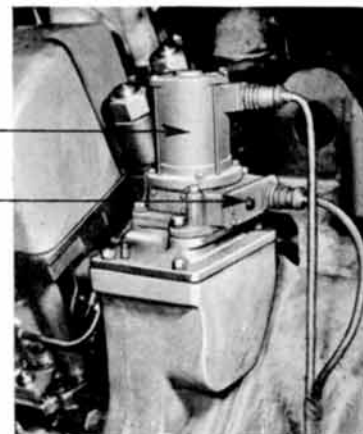

Fig. 31
16. See that the diesel engine overspeed reset button is *In*. See Fig. 31.